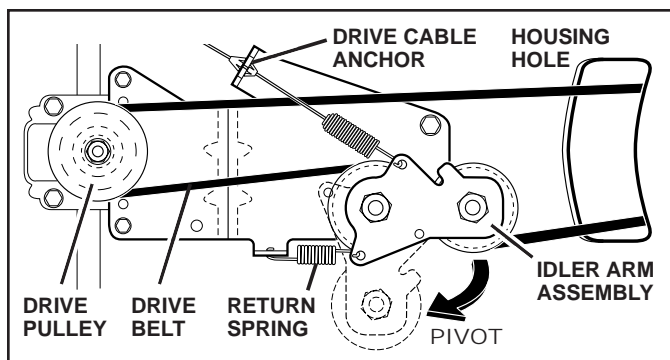

FIG. 17
3. Remove drive cable from anchor, then detach it and return spring from idler arm assembly (See Fig. 17).